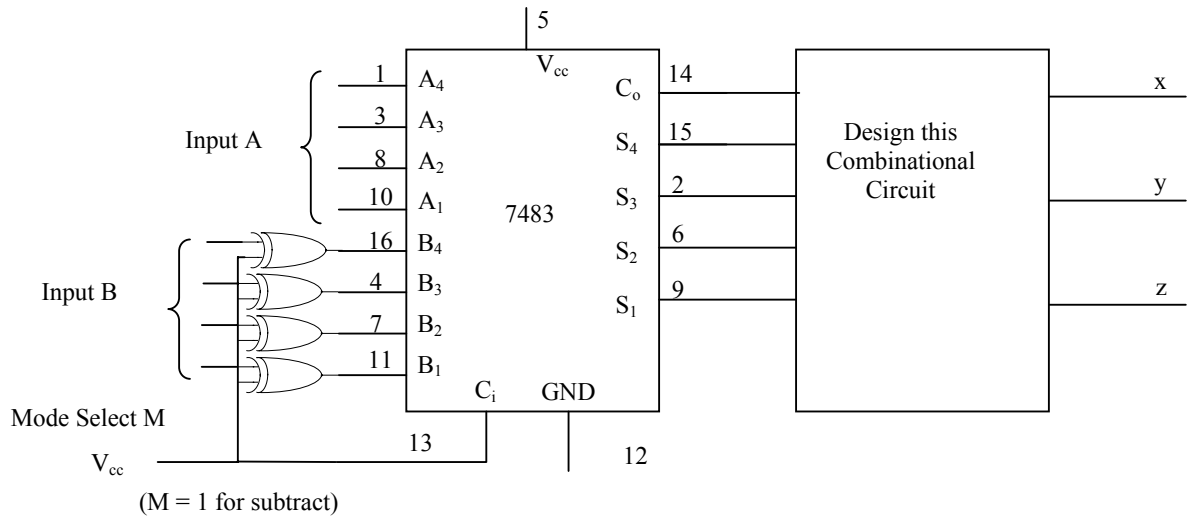

Fig.4 A magnitude comparator using a subtractor
- f) A magnitude comparator can be constructed by using a subtractor as in Fig 2. and an additional combinational circuit. This is done with a combinational circuit which has 5 inputs S_1, S_2, S_3, S_4 , and C_o , and three outputs X, Y, Z see Fig.4